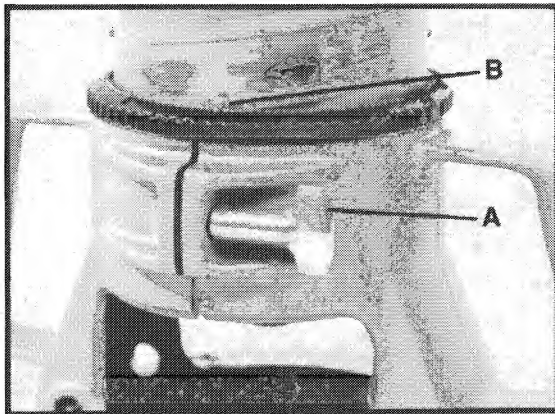

Fig. 1
- a) Loosen Clamp Screw (A) Fig. 1.
- b) While holding base, turn motor unit COUNTERCLOCKWISE until lower Pin (B) in motor housing is disengaging from groove in base.
2. Loosen the Clamp Screw (A) Fig. 1, only enough so Power Unit can be inserted in Base Unit.
3. Insert Motor Unit into base aligning lower pins (B) with grooves in base.